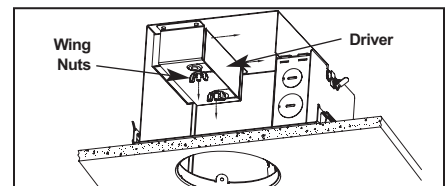

Figure 11
Step 4. Loosen wing nuts and slide driver out of the mounting bracket. Remove from housing. (Fig. 11)